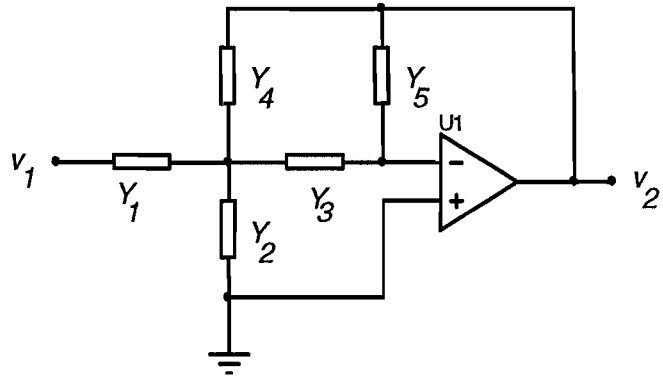

Fig. 5
c) The *Chebyshev* active filter circuit shown at Fig. 5 has a gain given by:-
d) Obtain expressions for the passband gain A and the turn-over frequency ω_0 for the circuit in Fig 5 in terms of the conductances Y_1 to Y_5 . [25%]